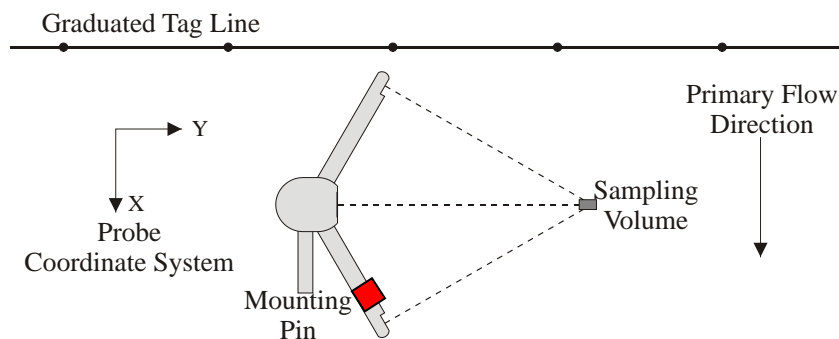

Figure 5:1 – FlowTracker2 Probe Orientation Relative to Stream Flow
- e) During velocity measurements, the probe's X-axis is maintained perpendicular to the tag line (Figure 5:1); the red band (receiver arm #1) should face downstream. Only the X-component of velocity (v_x) is used to in the discharge calculation, regardless of the flow direction (flow direction is also measured and recorded).